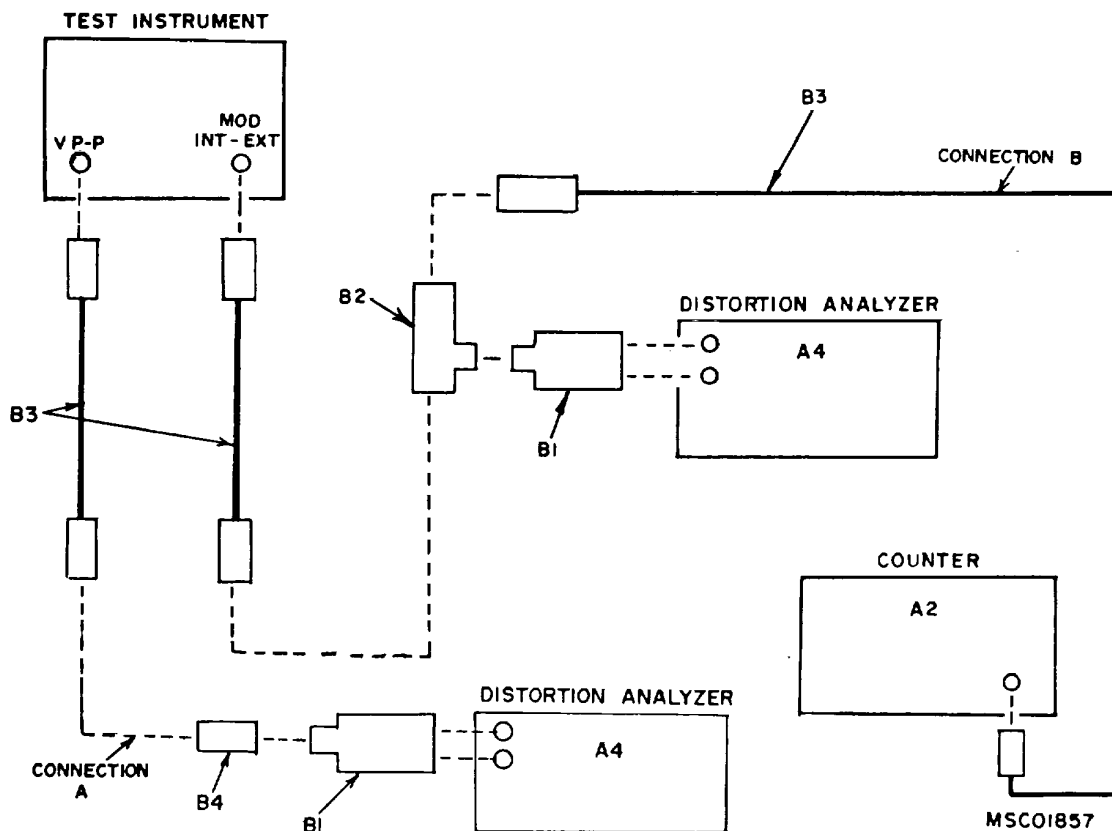

Figure 2. Distortion equipment setup.
(1) Connect equipment as shown in figure 2, connection A.
(2) Position controls as listed in (a) through (d) below:
(3) Measure distortion at 20 Hz. If distortion analyzer (A4) does not indicate <0.5 percent, perform b(1) and (2) below.
(4) Repeat technique of (3) above for frequencies of 1, 10, and 50 kHz.
(5) Set MODULATION RANGE pushbutton to (sine wave) and MODULATION SYM control to CAL.
(6) Connect TI as shown in figure 2, connection B.
(7) Set MODULATION RANGE Hz switch to 100 and adjust MODULATION RANGE Hz VERNIER for a frequency counter (A2) indication of 20 Hz. If distortion analyzer does not indicate <2 percent, perform b (3) through (5) below.
(8) Repeat technique of (7) above for MODULATION RANGE Hz switch setting of 10K and MODULATION RANGE Hz VERNIER settings of 1 and 10 kHz as indicated on frequency counter.